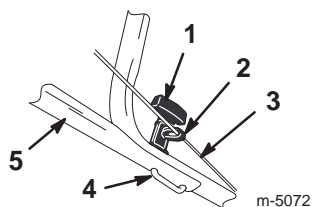

Figure 3
2. Loosen the knobs and pull out the handle locks until the upper handle rotates freely (Fig. 3).
4. Fully insert the handle locks (Fig. 3).
5. Ensure that the cable guide is in position as shown in Figure 3.